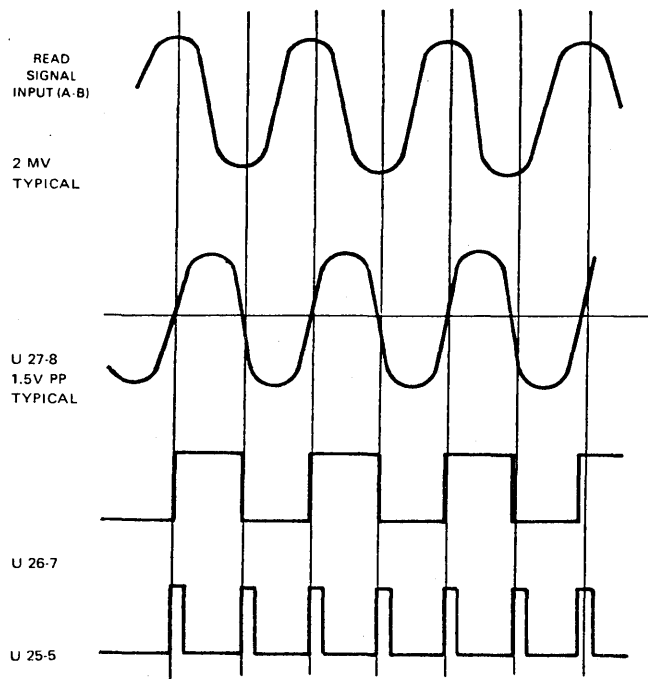

Figure 3-16. Single B Read Waveforms
- b. Differentiator. The differentiator consists of U28 and its associated components. This element, with U26 and U27, functions as a peak detector that generates the signal illustrated in the timing diagram of figure 3-16, which shows the read waveforms for a sequence of "1's." Thus the output of U28 crosses the zero-base line each time a peak is detected on the input signal. Capacitor C25 yields the required 6 dB per octave rising characteristic of a differentiator. Resistor R56 terminates this characteristic at 250 kHz. This stage has an approximate gain of 40 at 125 kHz.
- e. Comparator. The output of the amplifier is processed by low pass filter network R63, R64, C35, thus providing additional noise rejection for this stage. Comparator U26 converts the essentially sinusoidal wave shape input into a square wave. Figure 3-16 shows this waveform conversion and timing.
- g. Bidirectional One-Shot. The operation of exclusive "OR" gate U24-8 is identical to that described for U24-6. Every change in state of U23-9 (every data transition) will cause a high-going pulse to be generated by U24-8. Element U25-5, a 0.9 μ sec one-shot, will fire for all transitions generating RDATA (see figure 3-16). R69 and C39 determine the one-shot pulse width. U20 holds U25 reset whenever the drive is not selected or is in a write mode. This prevents noise from being transmitted to the interface.